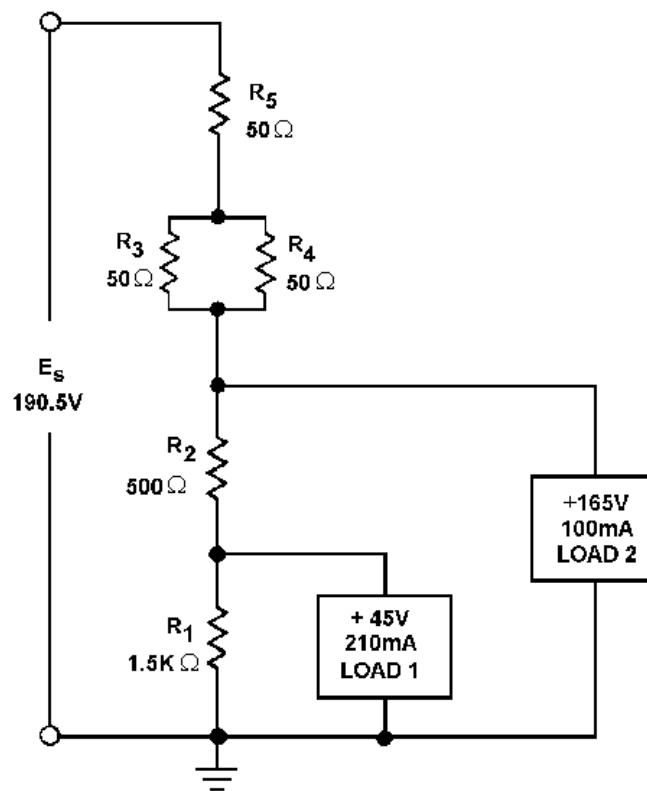

Figure 3-67.—Practical example of a voltage divider.
Once the values for the various divider resistors have been selected, you can compute the power used by each resistor using the methods previously explained. When the power used by each resistor is known, the wattage rating required of each resistor determines the physical size and type needed for the circuit. This circuit is shown in figure 3-67.
- Q53. In figure 3-67, why is the value of  $R_1$  calculated first?
- Q54. In figure 3-67, how is (a) the current through  $R_2$  and (b) the voltage drop across  $R_2$  computed?
- Q55. In figure 3-67, what is the power dissipated in  $R_1$ ?
- Q56. In figure 3-67, what is the purpose of the series-parallel network  $R_3$ ,  $R_4$ , and  $R_5$ ?
- Q57. In figure 3-67, what should be the minimum wattage ratings of  $R_3$  and  $R_5$ ?